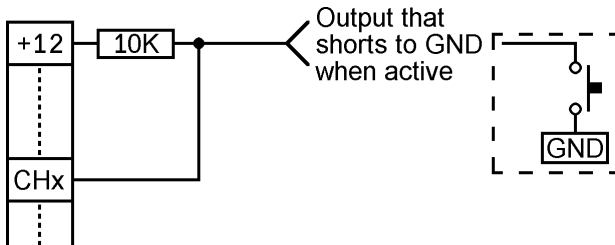

Figure 3: Connecting an output that drives low to the DT6I.
- CH1 - CH5** These are the inputs for alarm channels 1 to 5. Each input is held low via an internal 100K pull down resistor to GND. An input can be put into its alarm state by either applying voltage to it or removing voltage from it, depending upon the configuration of the input’s polarity (for further information on input polarity refer to the *INPUT POLARITY AND MODE OF OPERATION* section on page 15). To trigger an input from a source that only drives low (eg. an Open Collector output or a normally open switch to GND) the input will have to be pulled up to the positive voltage rail via a 10K resistor as shown in Figure 3 below [default requires +5 to 15V DC to trigger].